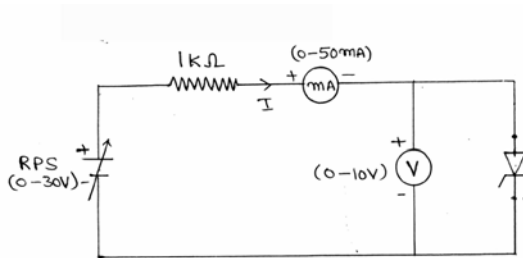

Fig.1
1. Connections are made as per the circuit diagram (fig1)